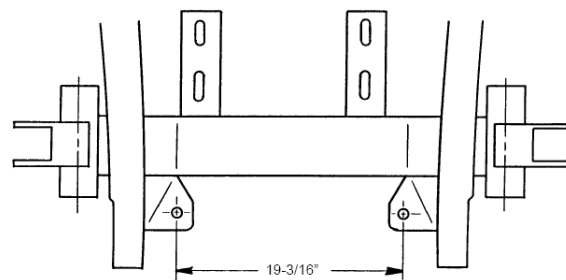

Figure 3- Radiator Tabs
6. The radiator tabs are next. Clamp the two tabs to a flat bar. They should be spaced so the holes are spaced 19-3/16" apart, hole center to center. Position the tab and bar assembly up into the frame, so the outer edge of the tabs are against the inside bottom edge of the frame. If they fall under the frame, grind the outside edges of the tabs so the edges of the tabs end up inside the bottom inside edge of the frame rails. See **Figure 3**. You will see that the actual radiator mounting surface is tilted back, to give the radiator the correct mounting angle. Weld in place.